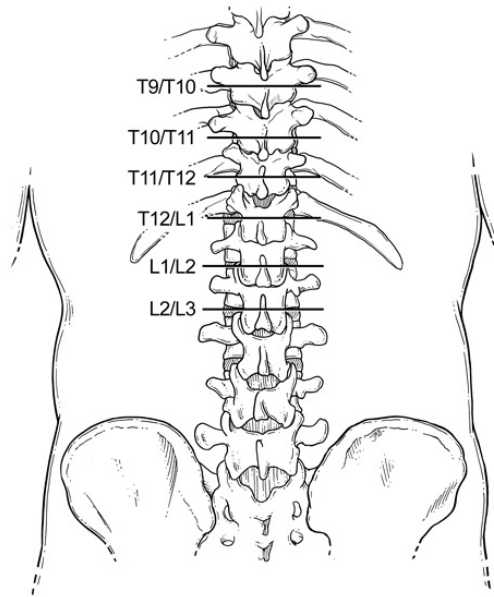

FIGURE 4
- 6 Mark the needle entry levels for the percutaneous trial on the skin (FIGURE 4).